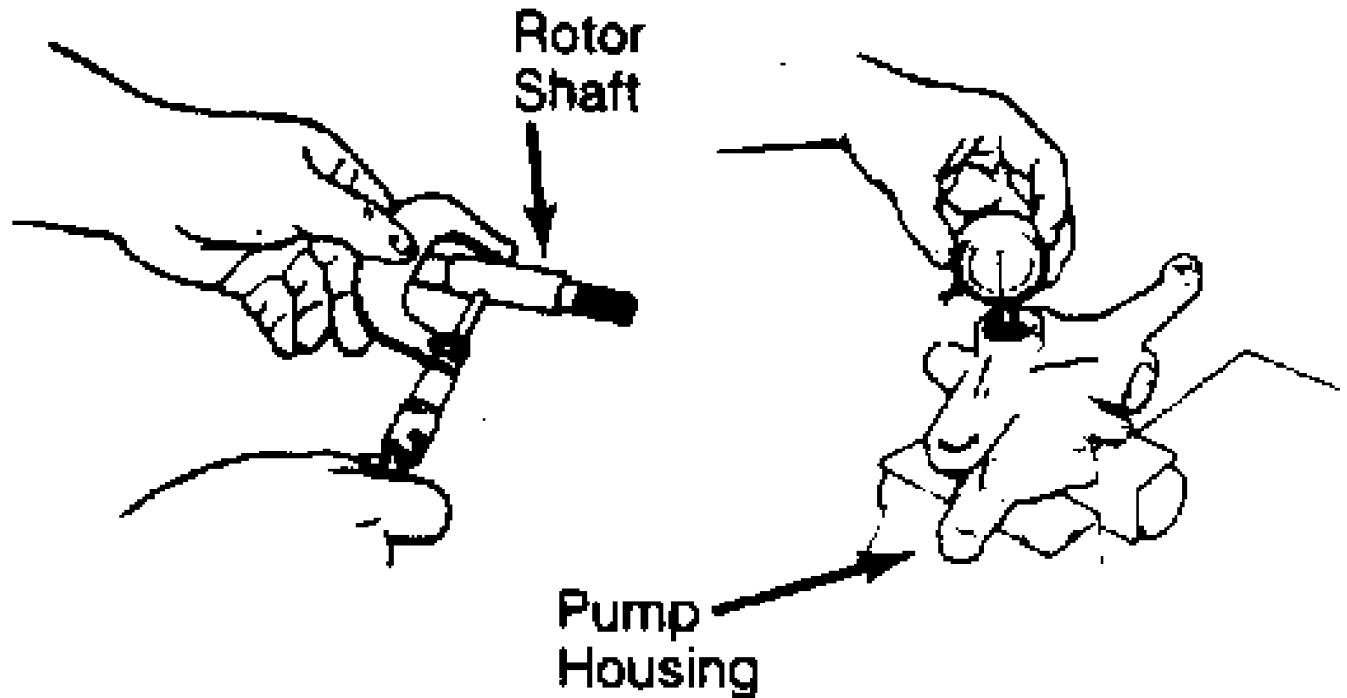

Fig. 2: Checking Pump Housing Bushing-to-Rotor Shaft Clearance
1) Check oil clearance between pump housing bushing and rotor shaft. See Fig. 2. If difference is greater than .0028" (.07 mm), replace complete pump assembly. Discard all "O" rings and replace with new ones.